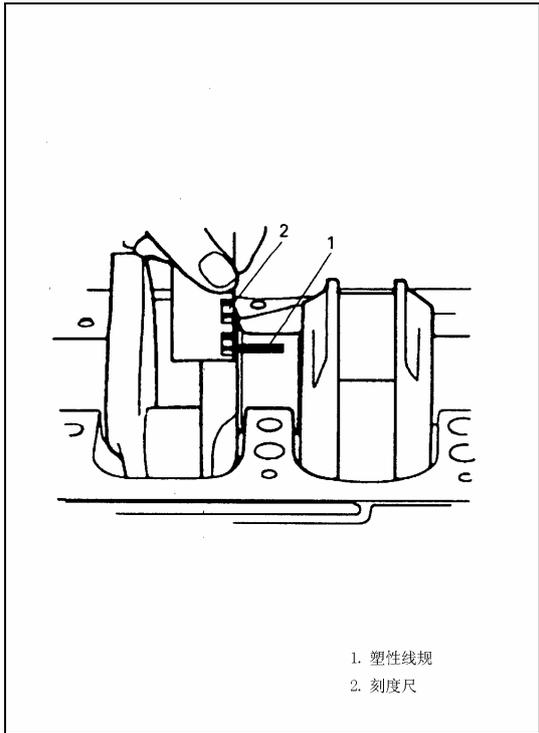

Fig 4-190
- (5) As shown in fig 4-190, disassemble crankcase, measure the width of the plastic gauge shim at the widest area with plastic gauge, if the clearance is out of limit, replace main bearing shell. Upper and lower bearing shell must replace together.